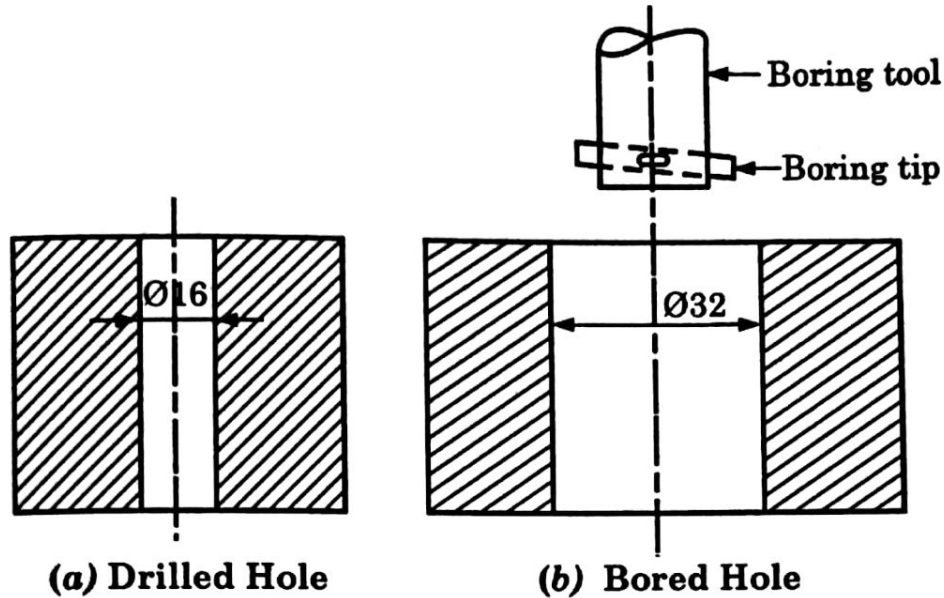

Fig. 2.17 : Boring
4. **Boring :** Boring is done on a drilling machine to increase the size of an already drilled hole. If the drill of very large diameter is used, it is very costly and accordingly, will require heavy duty drilling machine. However, by making use of boring tool, the hole can be enlarged to a good extent without any significant increase in cost. The operation is shown in fig. 2.17.